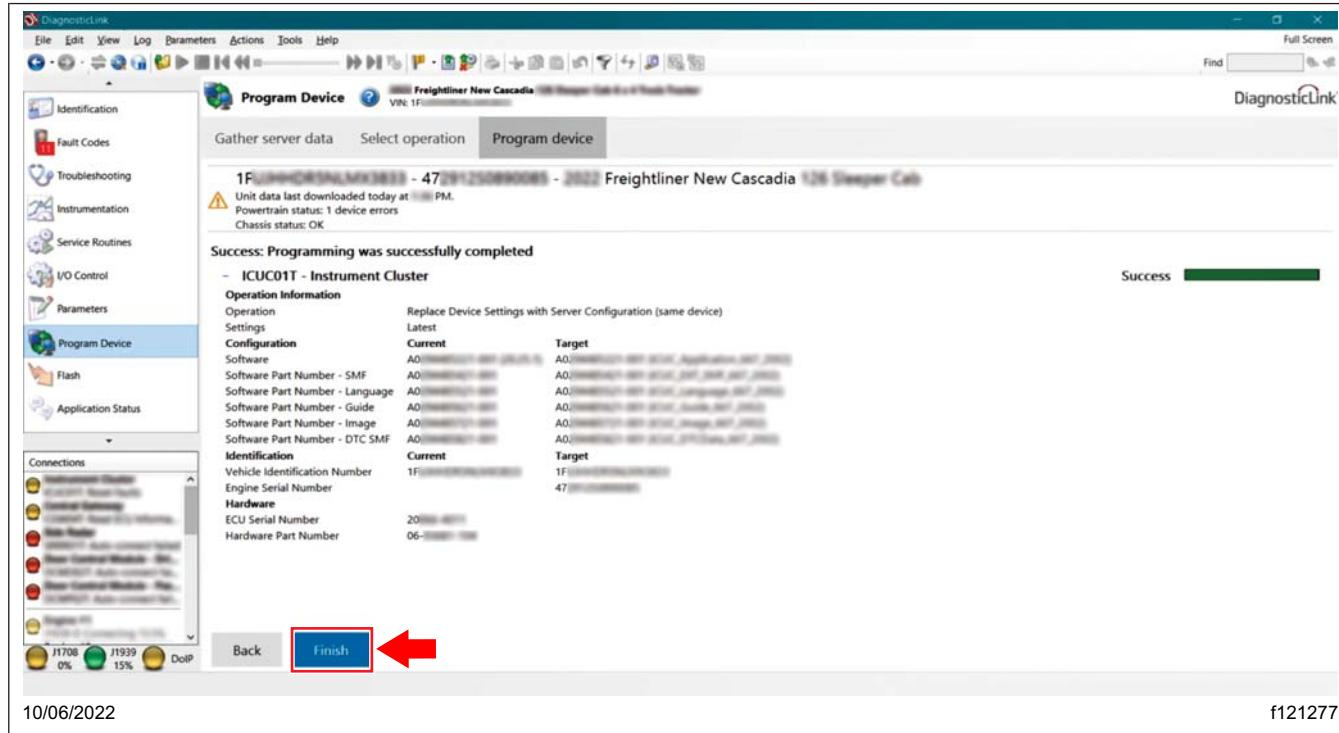

Fig. 21, Flashing Successful
24.5 Once the flashing is successful, select 'Finish.' See **Fig. 21.**